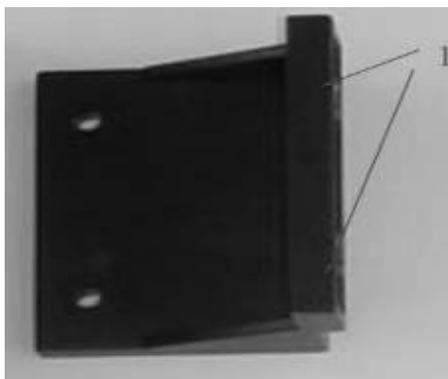
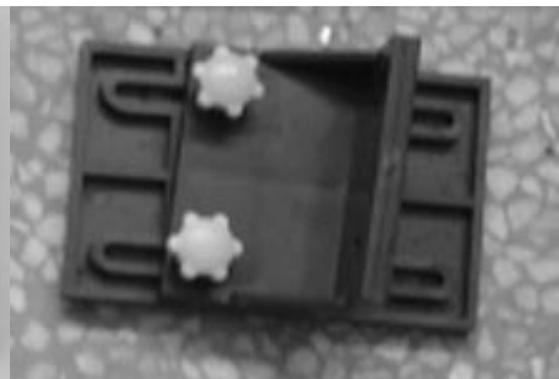

Fig. 1
Fig. 3
- 1) First fix the two plastic pieces indicated in fig. 1 and 2 through two 30 mm round head square neck bolts and 2 knurled knobs. In fig. 1, number 1 indicates the holes you must use only in final phase. These two pieces are used as vertical clamp for the workpiece.
Lastly, use two 2 M5 10 mm hexagonal headed bolt and two 10 mm nuts in order to fix the part illustrated in fig. 3 to the main part thanks to the two holes marked with no. 1 (Fig.1). The main part of the assembly is finished. You can check that all parts are correctly assembled in order to grant a suitable safety level while you are using the machine.